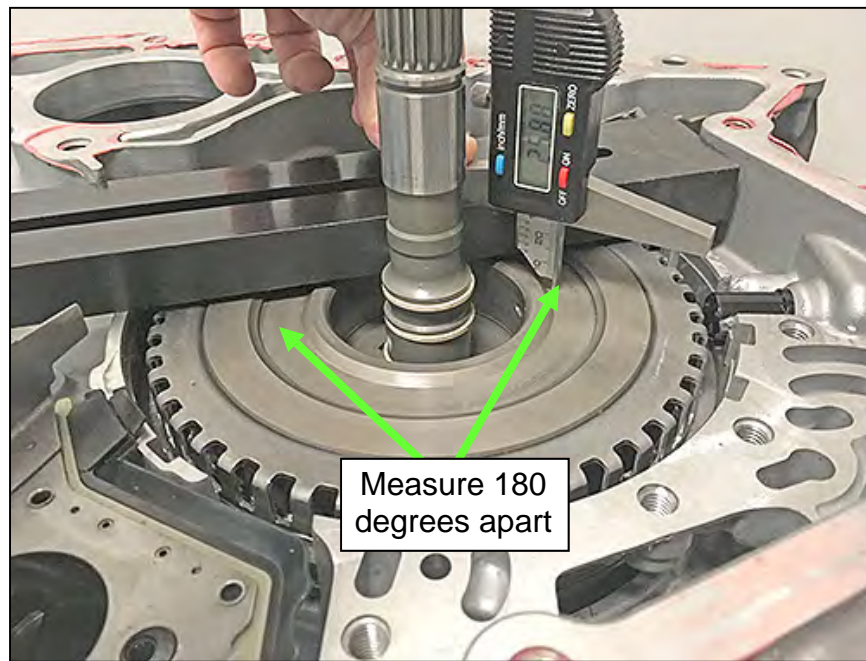

Figure 145
- d. Carefully slide the gauge down until it bottoms out on the upper surface of the clutch drum where thrust bearing seats, where shown in Figure 145. Write this measurement as **D1** (use millimeters).